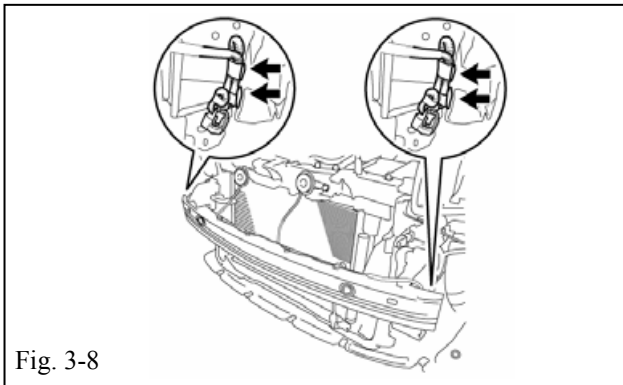

Fig. 3-8
- (f) Plug connector into lamps on bumper/grill assembly. (Fig. 3-8)